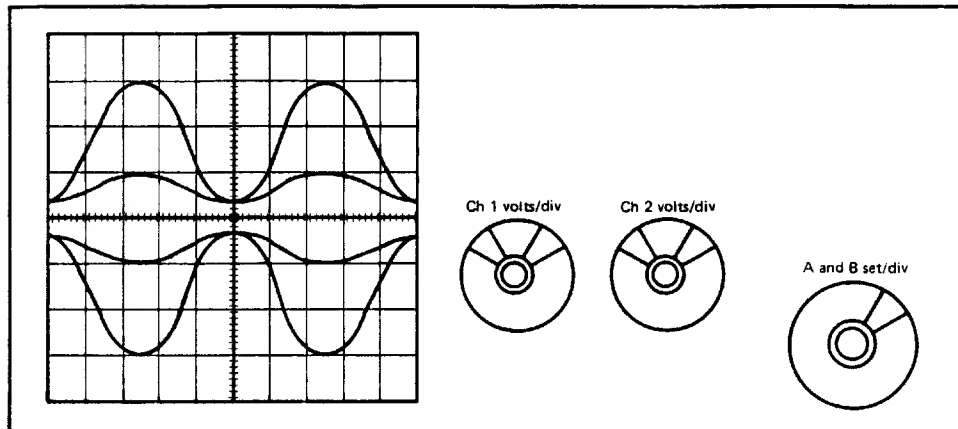

FIGURE 6-14. OSCILLOSCOPE CAT-EYE PATTERN FOR RADIAL HEAD ADJUSTMENT
- 6.3.6.8 Rotate Stepper Motor to move head radially in and out while observing Cat Eye pattern on Oscilloscope. (See Figure 6-14.) Adjust until Cat Eye Lobes are equal.